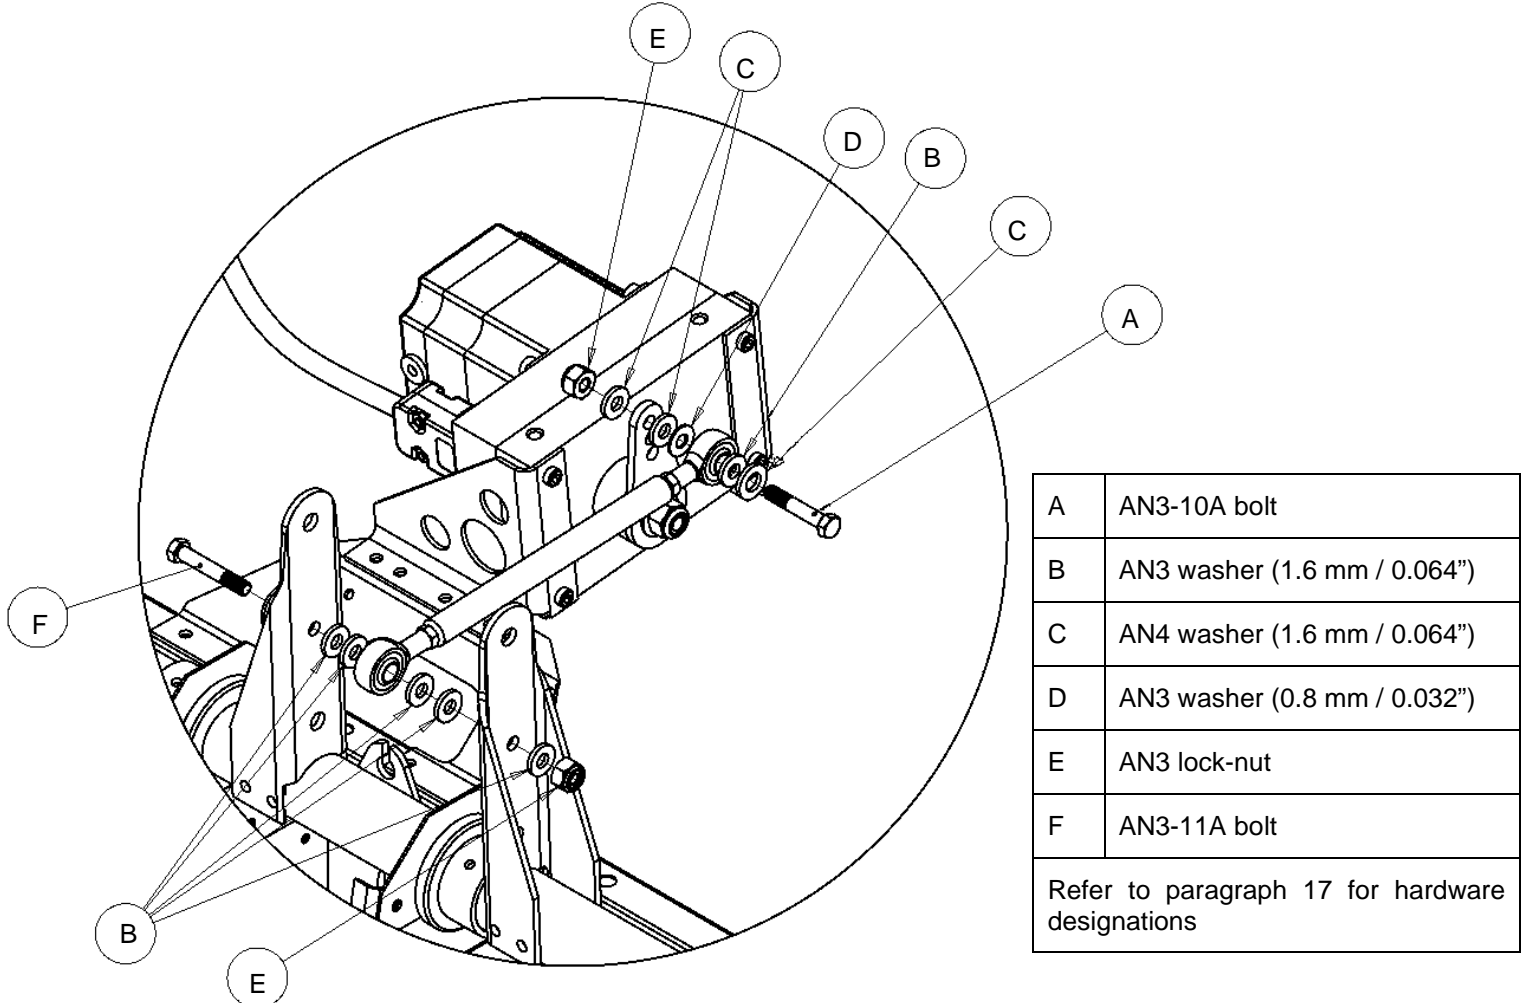

Figure 27: Autopilot elevator servo installation.
- Observe the correct placement of washers (refer to Figure 27).